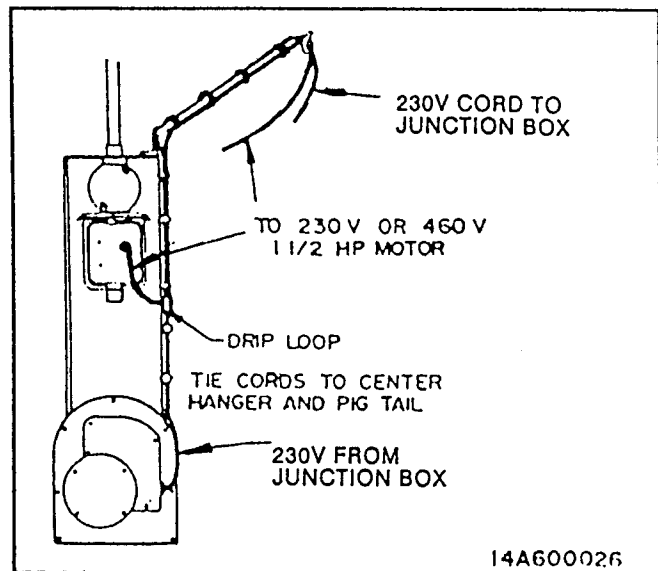

FIG. 9 CENTER HANGER CORDS
1. On 230v machines, take lead(s) from rotating contact, run up center hanger and out to end of cord hanger. Tape cord(s) to hangers. Provide a drip loop by rotating contact, Fig 9. Connect all motors and mercury switches as shown in Figs. 10-13.